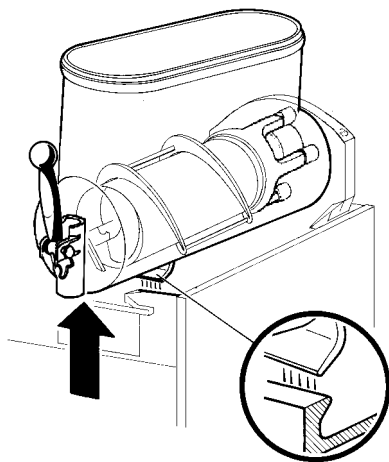
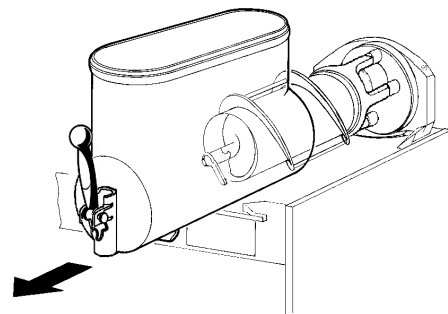

figure 8
figure 9
- 2 - Remove the bowl by lifting its faucet side up and off the fastening hooks (see figure 8) and slide it out (see figure 9).